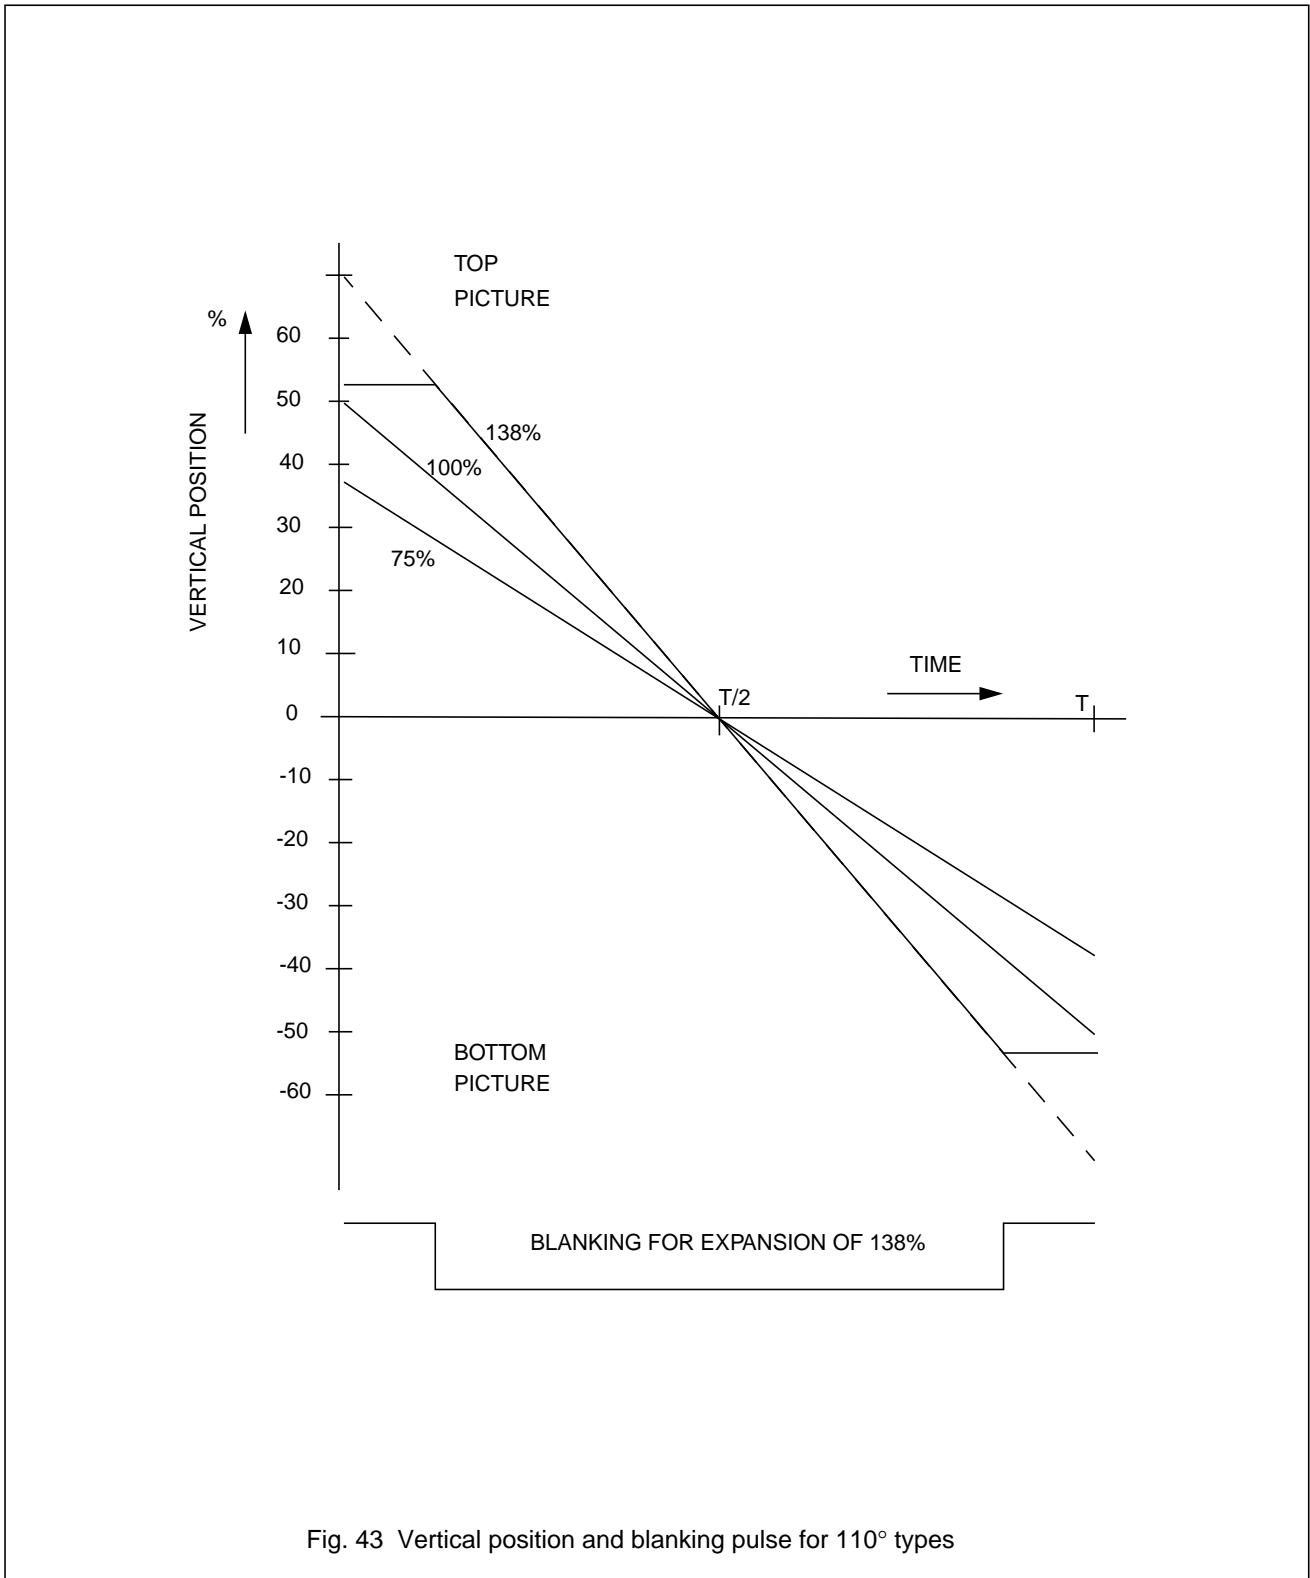

Fig. 43 Vertical position and blanking pulse for 110° types
51. The ICs have a zoom adjustment possibility for the horizontal and vertical deflection. For this reason an extra DAC has been added in the vertical amplitude control which controls the vertical scan amplitude between 0.75 and 1.38 of the nominal scan. At an amplitude of 1.06 of the nominal scan the output current is limited and the blanking of the RGB outputs is activated. This is illustrated in Fig. 43.